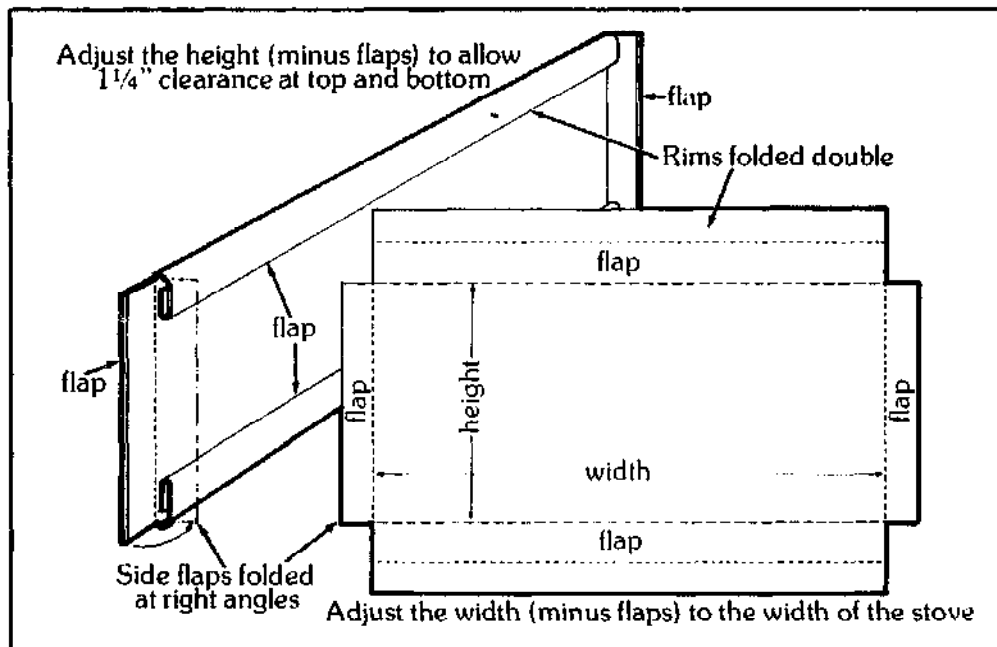

Figure 13.18 — Baffle pattern.
10. Make and install the baffle. Measure the width and depth of your stove at a point $12\frac{1}{2}$ inches from the end opposite the stovepipe port. Cut a piece of metal 12 by 18 inches and fold it, as shown in Figure 13.18. Install in the position indicated in Figure